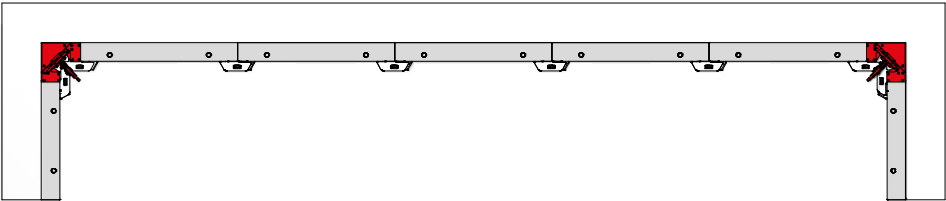

Fig. 38.1
- 1. Remove the M assembly locks connecting the stripping corners to the panels (Fig. 38.1).